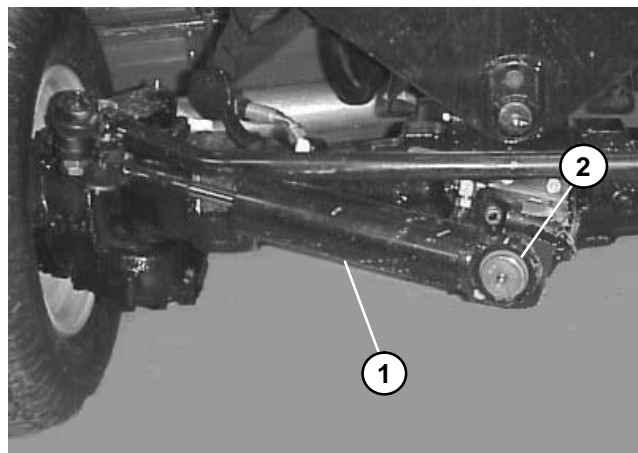

Figure 17
A. (4WD) Remove the retaining ring securing the rod end of the cylinder to the bevel gear case (Fig. 17).
A. (4WD) Hold the steering cylinder in position and install the retaining ring securing the barrel end of the cylinder to the cylinder mounting bracket (Fig. 17).